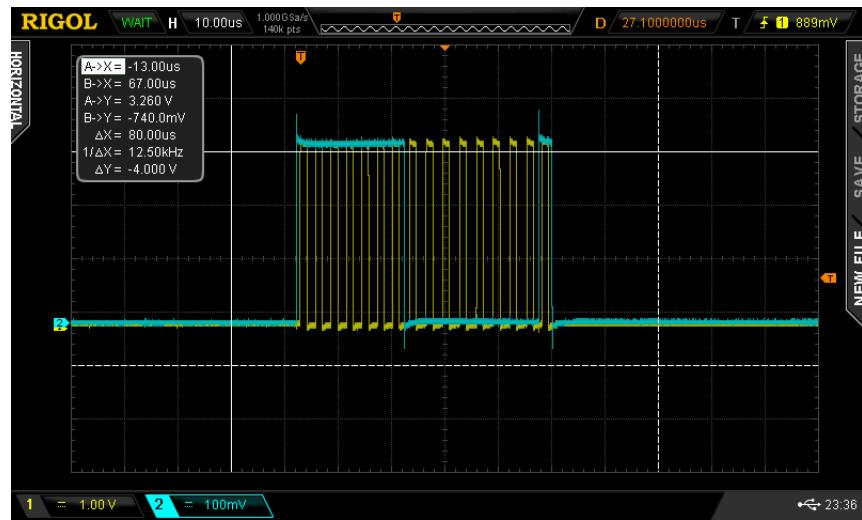

Figure 10: A photo of the uC clock (yellow) and data (blue) pulses on an oscilloscope.
- Should see something like the SI line on the RFSA timing diagram 8. A picture of the oscilloscope trace is in figure 10.